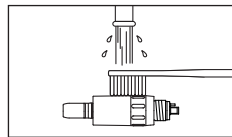

Fig. 13
- 1) Brush the exterior of motors under running tap water using a soft bristled brush for one minute (Fig. 13).